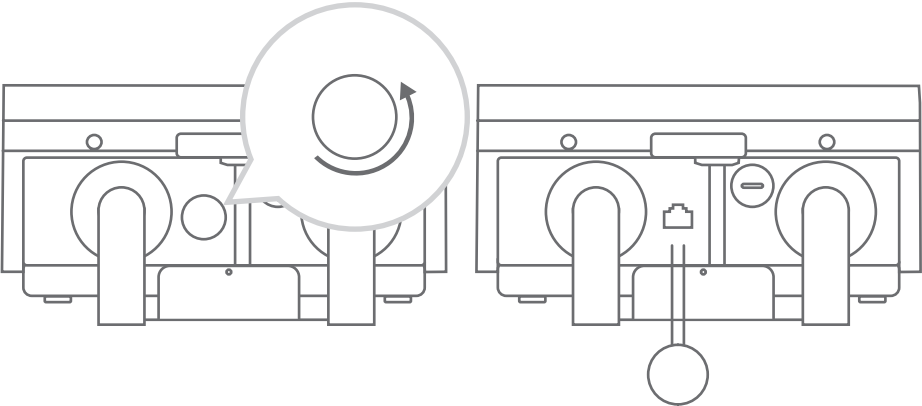

Fig. 5-17
1. Remove the protective cap of the network port on the bottom center of the charger. (See Fig. 5-17)